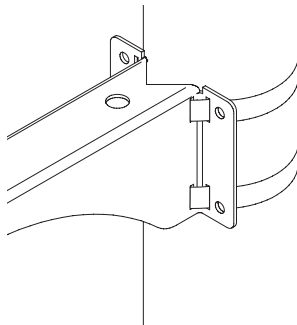

Figure 6
10. Slide the mounting straps through the slots in the bracket and tighten to the pole (Figure 6).